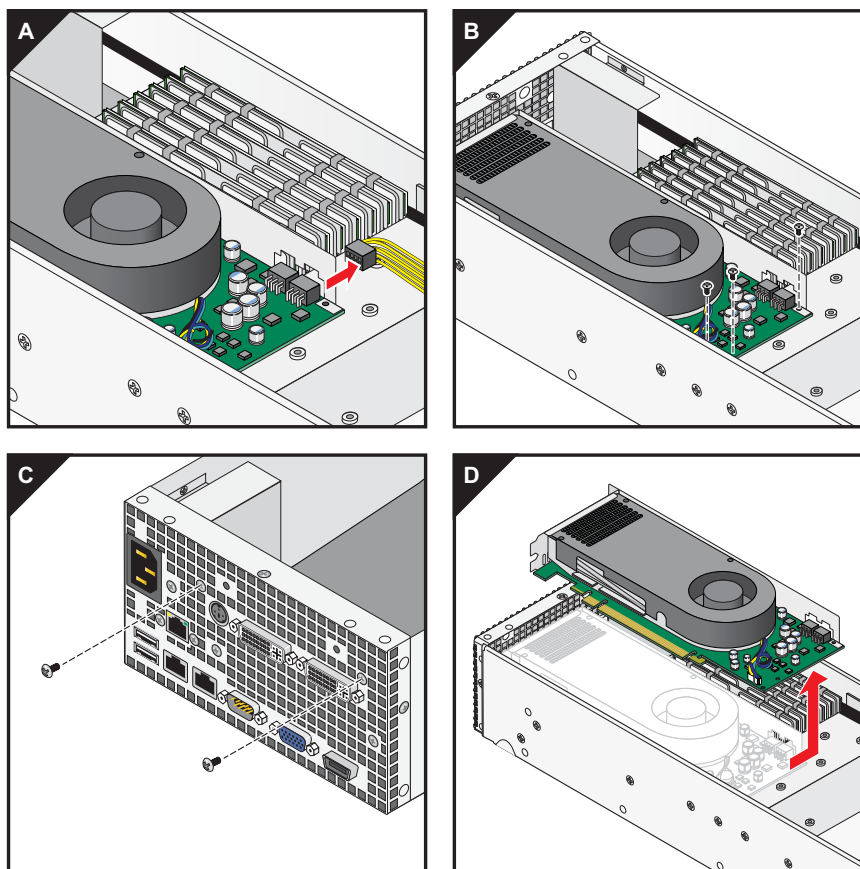

Figure 3-11 Graphics Card Removal
Note: The power cable may be plugged into a different location than the power cable shown in Figure 3-11.
2. Disconnect the graphics card power cable (refer to Figure 3-11, A).
3. If necessary, remove the three screws that secure the graphics card to the chassis air baffle (refer to Figure 3-11, B).
4. Remove two screws (refer to Figure 3-11, C) that secure the graphics card to the rear panel.
5. Unseat the graphics card from the PCI riser board connector and lift the card out of the chassis (refer to Figure 3-11, D).